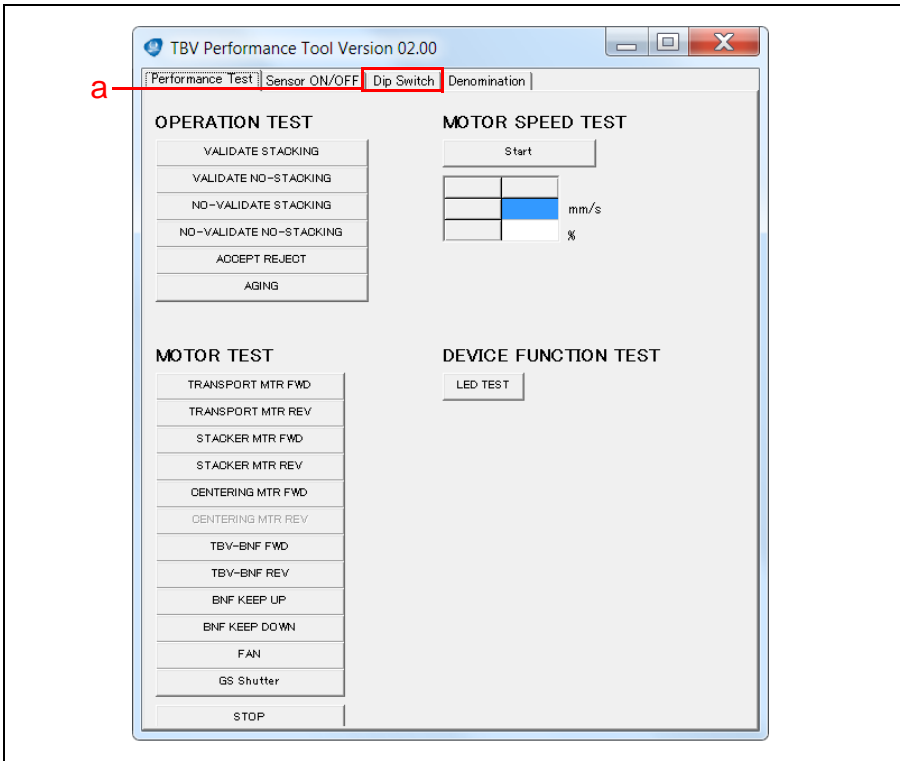

Figure 14 TBV Performance Tool - DIP Switch Tab
1. Click the DIP Switch tab (Figure 14 a).